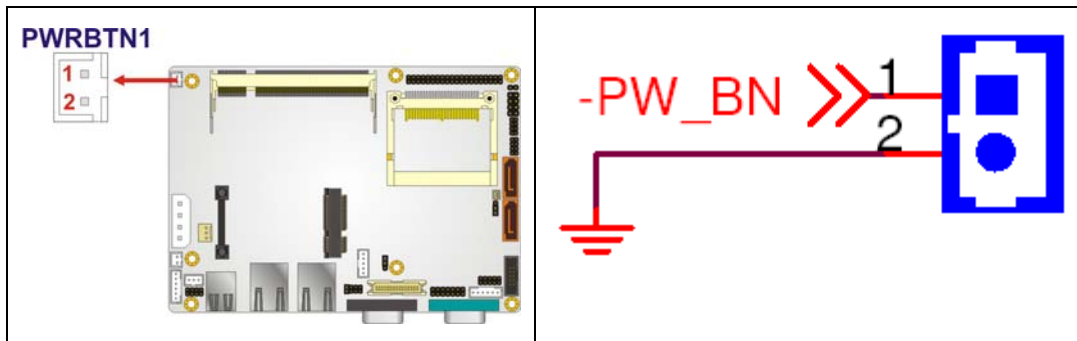

Figure 4-13: Power Button Connector Location
- CN Location:** See **Figure 4-13**